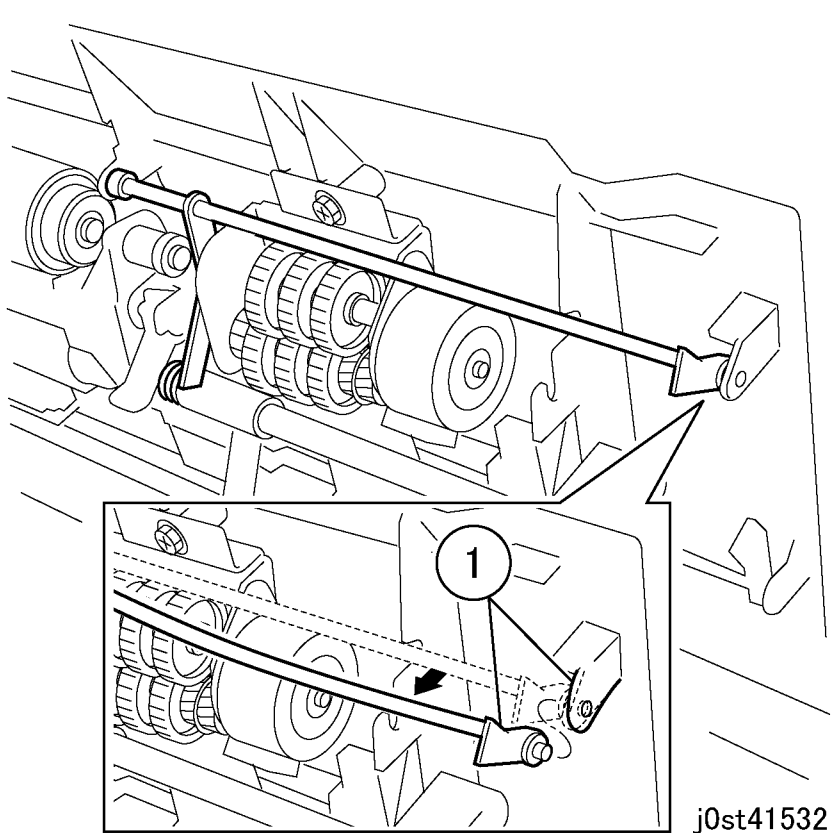

Figure 2 Removing the actuator
3. Remove the actuator while deforming the support and actuator (1) and place it aside to prevent damaging it during this removal procedure (Figure 2).